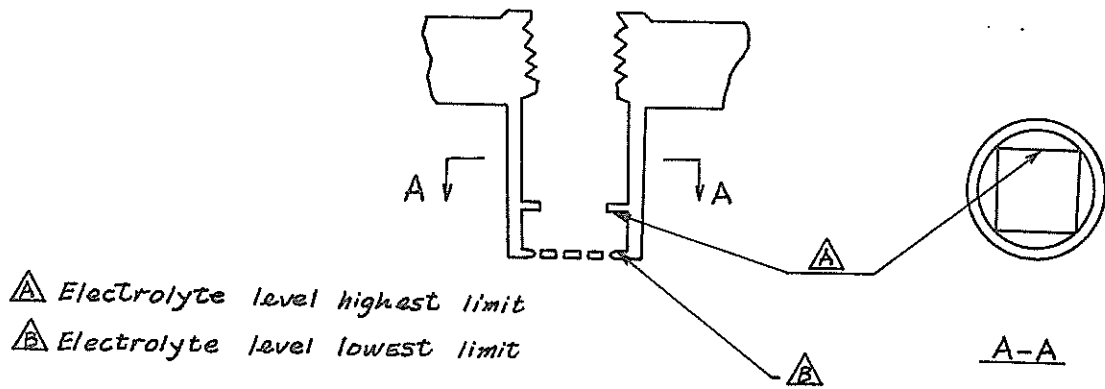
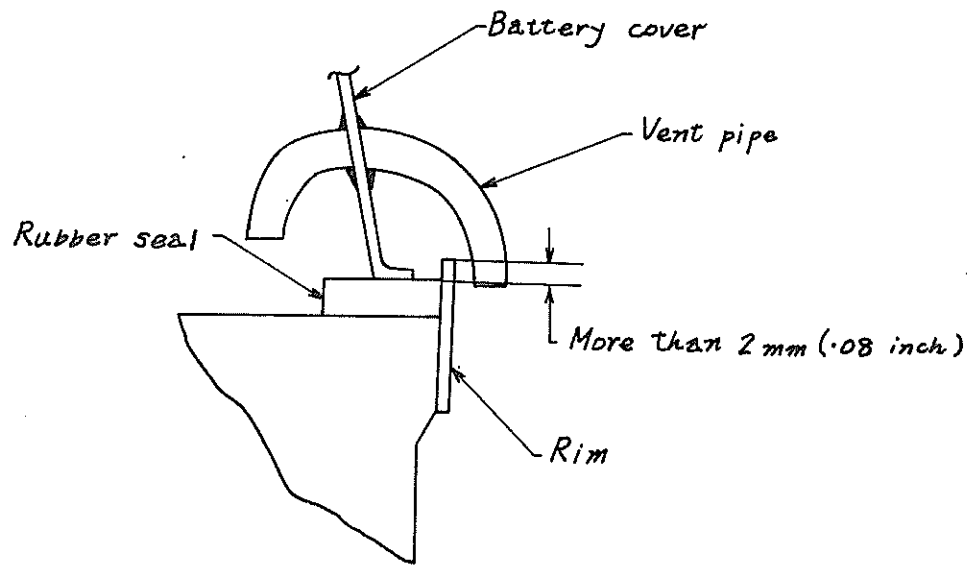
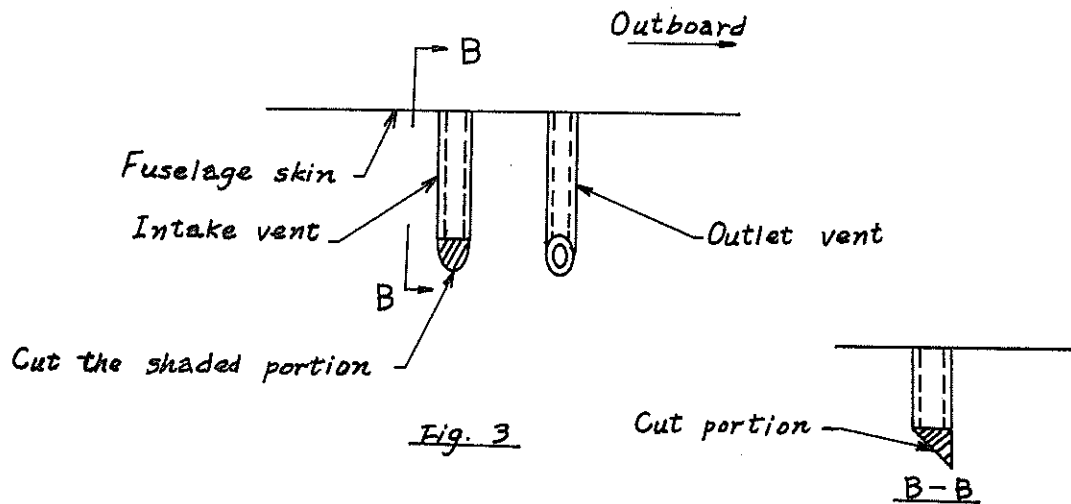

Fig. 1
Fig. 2
Fig. 3
- (1) Check the battery and fuselage structure rear the battery for leakage of electrolyte.
- (2) Charge the battery and check the electrolyte level. Electrolyte level should be within mark A and B (Refer to Fig. 1).
- (3) Tighten battery cell filler caps and check the leakage from the filler caps in upside down condition.
- (4) Check the rim around the battery box for detachment. The rim height should be more than 2 mm (0.08 inch) from the rubber seal. (Fig. 2)
- (5) Check the battery cover for crack.
- (6) Check the vent pipe for the gap between the pipe and cover.
- (7) Install the battery and adjust the clamp screw as there is no gap between the battery cover and rubber seal.
- (8) Cut the tip of outboard side vent tube under fuselage as illustrated in Fig. 3.